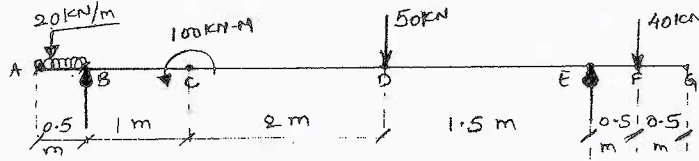

Fig.Q4(b)
- b. Draw shear force and bending moment diagram for the beam loaded as shown in Fig.Q4(b). Also locate the points of contra flexures. (14 Marks)